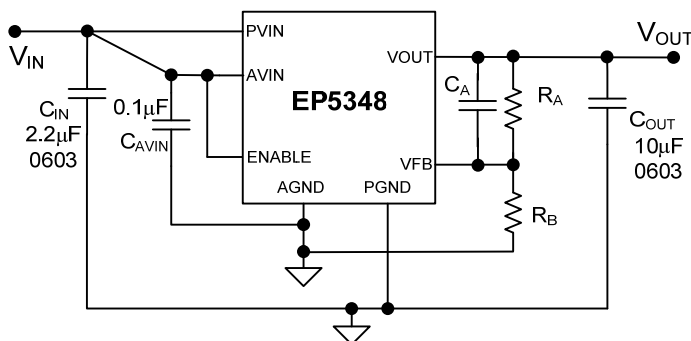
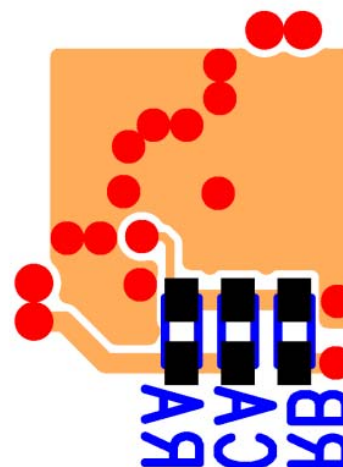

Figure 3: Typical Application Circuit
Figure 5: Bottom PCB Layer Critical Components (RA, RB, CA) & Copper for Minimum Footprint
Referring to Figure 3, use 200 kΩ, 1% or better for the upper resistor ( $R_A$ ). The value of the bottom resistor ( $R_B$ ) in kΩ is given as:
**Recommendation 4:** As Figure 5 shows,  $R_A$ ,  $R_B$ , and  $C_A$  have been placed on the back side to minimize the footprint. These components also need to be close to the VFB pin (see Figures 3, 4 and 5). The VFB pin is a high-impedance, sensitive node. Keep any trace connected to this node as short and thin as possible. Whenever possible, connect  $R_B$  directly to the AGND pin instead of going through the GND plane. In the layout shown above,  $R_B$  goes to the via next to AGND pin using a dedicated trace on layer 3 not shown here. See Gerber files at [www.enpirion.com](http://www.enpirion.com).